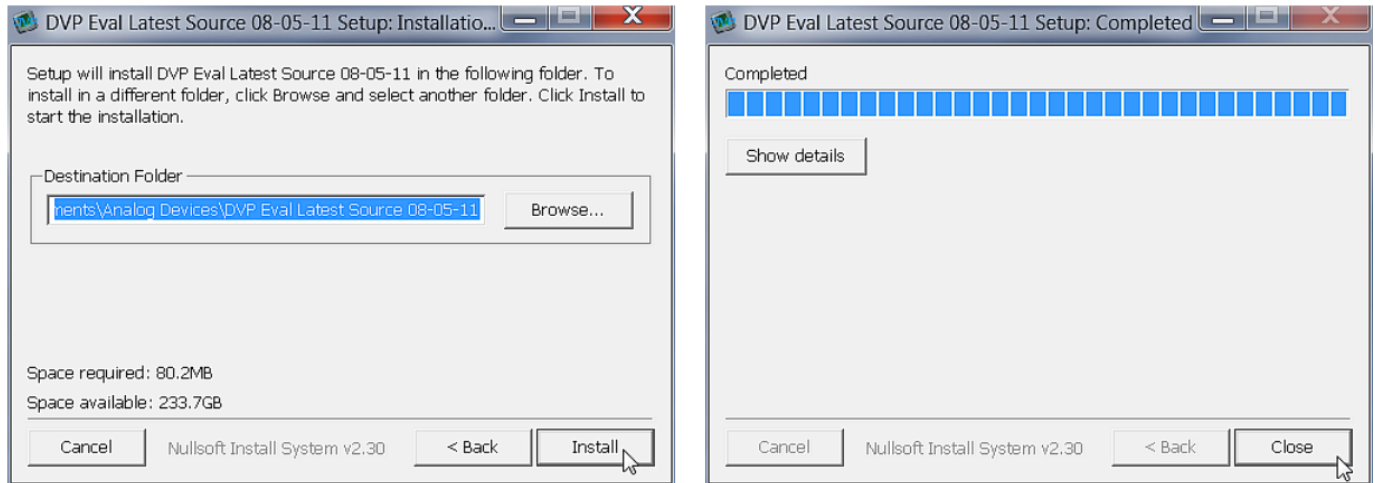

Figure 4 - Installation Folder
6. Accept installation folder (see Figure 4; the default folder is User’s “My documentation” folder) and press install.